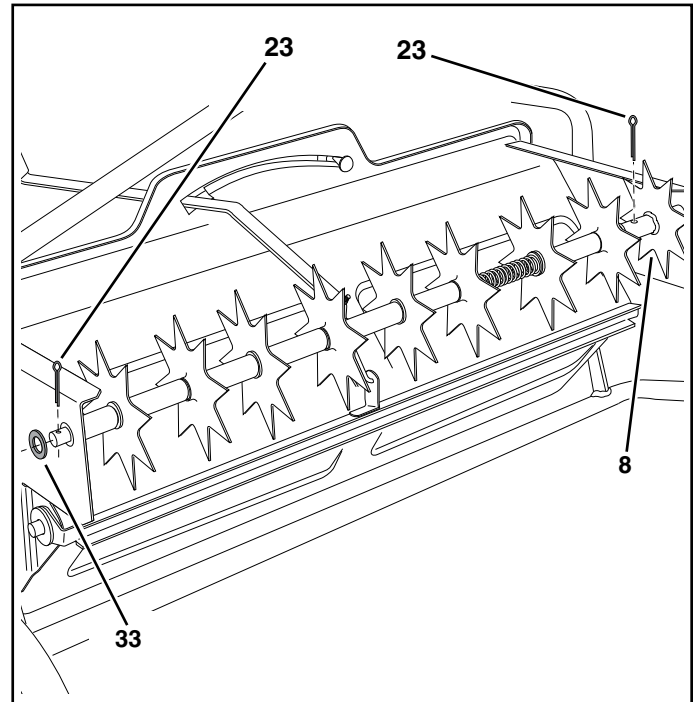

FIGURE 23
- Place a 5/8" flat washer (33) onto the end of the spike disk shaft and secure the shaft with a 1/8" x 1-1/2" cotter pin (23) by spreading the ends of the cotter pin. See figure 23.
- Fasten the drive disk to the shaft using a 1/8" x 1-1/2" cotter pin (23) by spreading the ends of the cotter pin. See figure 23.